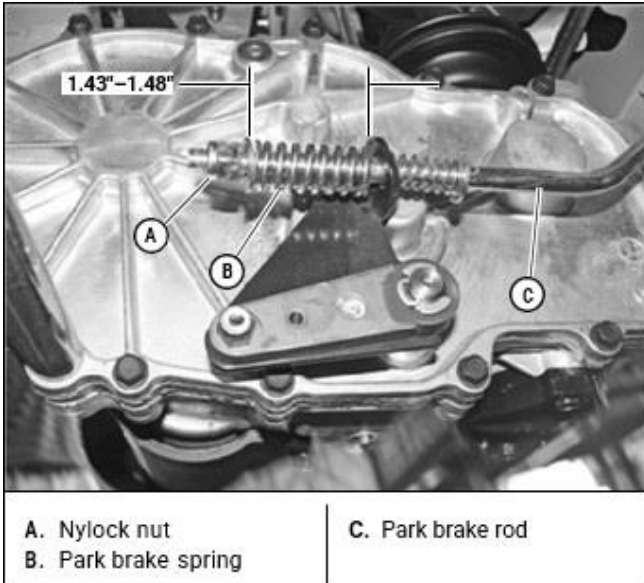

Figure 6
2. On one side measure the park brake spring. It should be compressed to 1.43"–1.48". If it is not, adjust the nylock nut until the proper spring compression is achieved. [Figure 6]